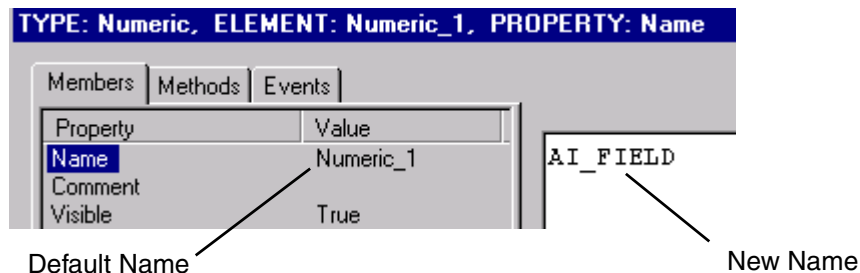

Figure 140. Changing the Name Property
3. Select the Name property in the property list and change the name from the default (Numeric_1) to AI_FIELD, Figure 140.